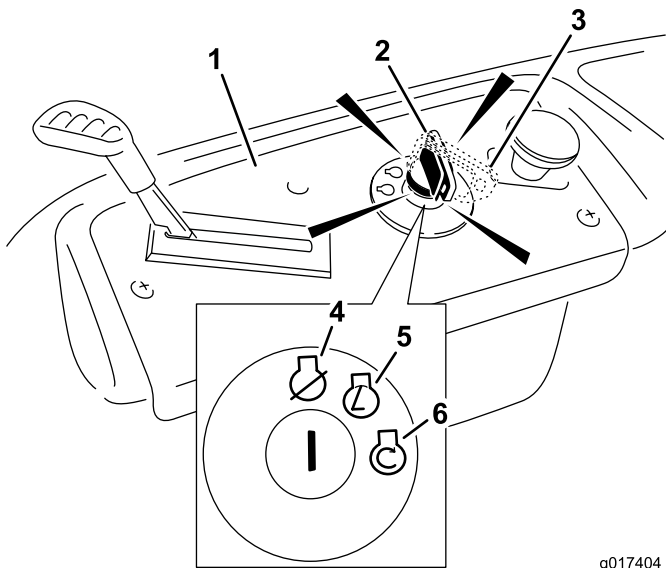

Figure 13
4. Turn the ignition key to Start to energize the starter. When the engine starts, release the key (Figure 13).
- Move the throttle lever to the Fast position (Figure 13).